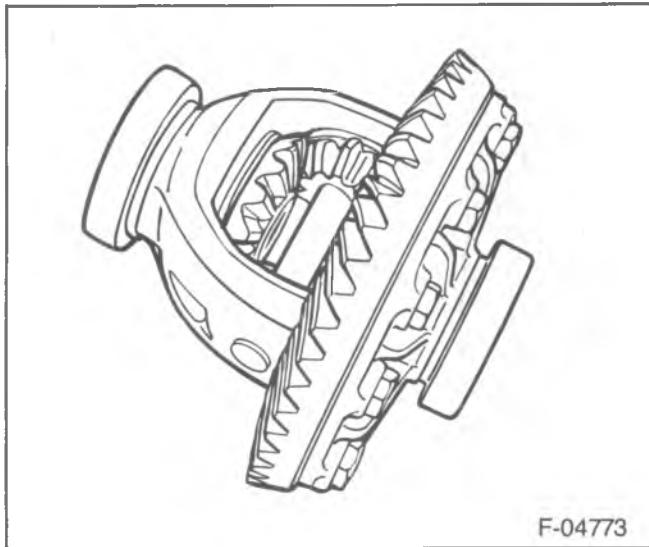

Figure 45—Differential with the Master Bearings
10. Master differential bearings D-117 (Miller Tools) to the differential (figure 45).